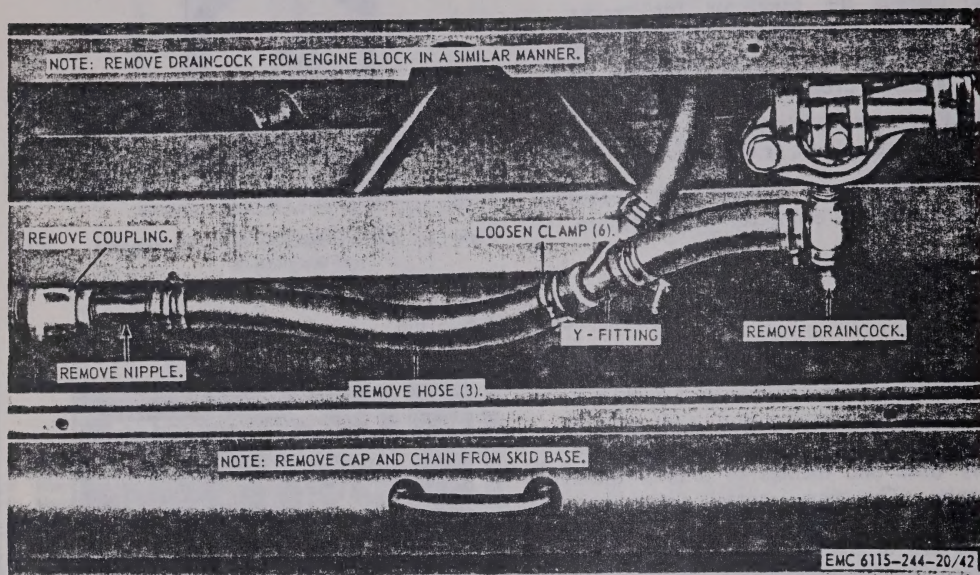

Figure 42. Coolant draincocks, drain hoses, and fittings, removal and installation.
a. Removal. Refer to figure 42 and remove the coolant draincocks, drain hoses, and fittings from the generator set.
- (1) Clean all metal parts with an approved cleaning solvent and dry thoroughly. Clean the hoses with clean water.
- (2) Inspect the draincocks for cracks, breaks, defective threads, and other damage. Inspect the fittings for cracks, breaks, and defective threads. Inspect the hoses for cracks, breaks, tears, and other damage.
- (3) Replace all parts that are excessively damaged, worn, or defective.
c. Installation. Refer to figure 42 and install the coolant draincocks, drain hoses, and fittings on the generator set.